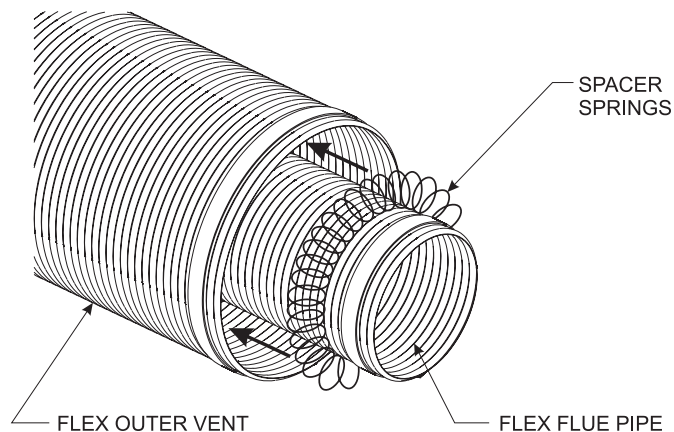

Figure 67
2. Check to see that the vent spacer springs are located around the flue vent at 8" intervals along its length. **See Figures 67 & 68.** If not, stretch the spacer springs to about 15" long and wrap them around the flue, then interlock the ends of each spring. Maintain equal distance between spring spacers.